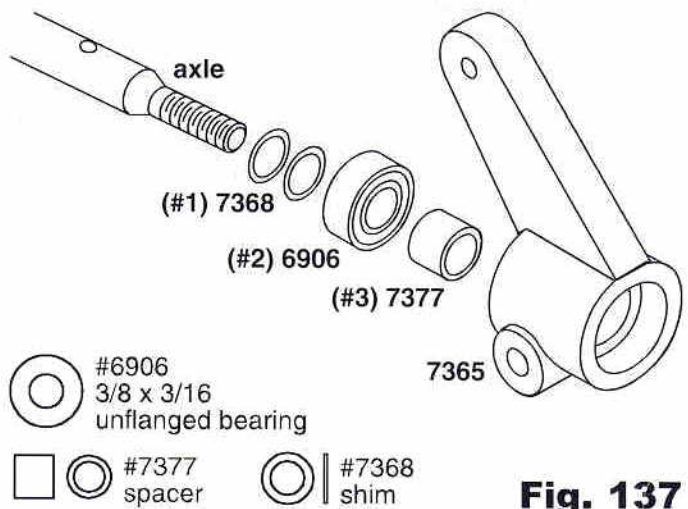

Fig. 137
□ **Figs. 127, 128 & 129** (1) In bag #7-8 you will find the two #7365 0° rear hub carriers, four #7360 1/4" x 3/8" bushings, two #6374 rear stub axles, two #6388 cone washers, and two #6375 roll pins. (2) Remove the hub carriers from the mold runner (there is no left or right). (3) Now install one bushing into each side of each of the rear hub carriers. (4) Fig. 127 shows the parts that are to be assembled together and the direction each part will be facing when installed correctly. Now slide the #6374 rear stub axles through the bushing in the #7365 rear hub carriers. (5) Now on the front of the axle install the #6388 cone washer with the raised center hole against the bushing. (6) Install the #6375 rear axle split roll pin into the axle. (7) Take your needlenose pliers (fig. 128) or slip joint pliers (fig. 137) and squeeze the pin into the axle. If you are unable to use your pliers, you can use a vice and hammer as shown in fig. 129. Set the axle on your vise. With your pliers, hold the pin aligned over the hole in the axle. Lightly tap the pin into the axle until the pin is evenly spaced.
- Fig. 137** (1) Slide two #7368 shims onto the axle. (2) Slide one #6906 unflanged bearing onto the axle. (3) Slide the #7377 spacer into the #7365 hub carrier. (4) Slide the #7365 hub carrier onto the axle and bearing.